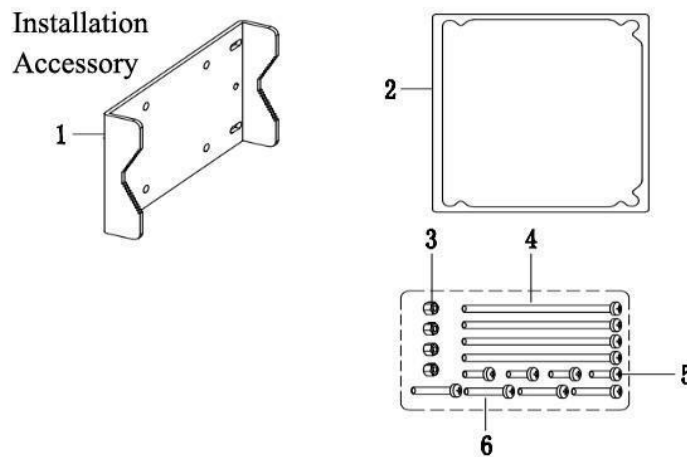

Figure 2 Installation Components
- Figure 2 shows the transmitter installation components.